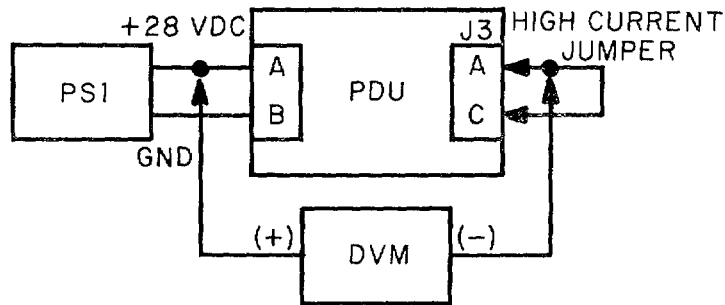

Figure B-3. Line Drop Test Setup
- (a) Connect equipment to first set of points as shown in figure B-3 below.